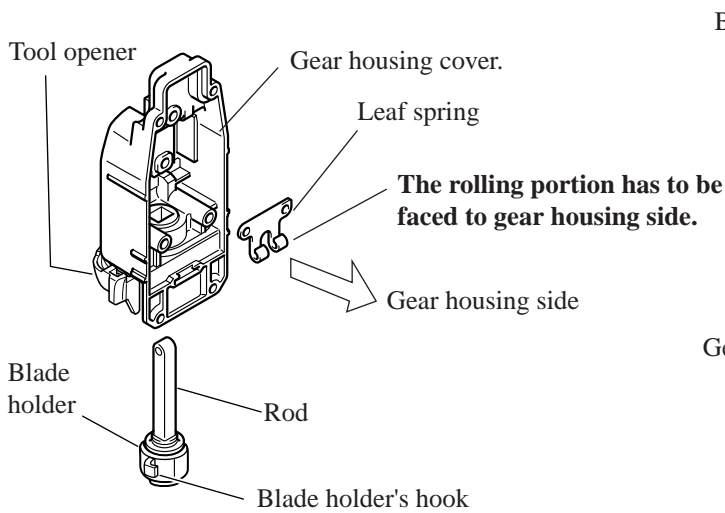

Fig. 8
2. Put leaf spring in gear housing cover, paying attention to its assembling direction as illustrated in Fig. 8. And insert rod into gear housing cover, paying attention to the direction of hook of blade holder as illustrated in Fig. 8A.